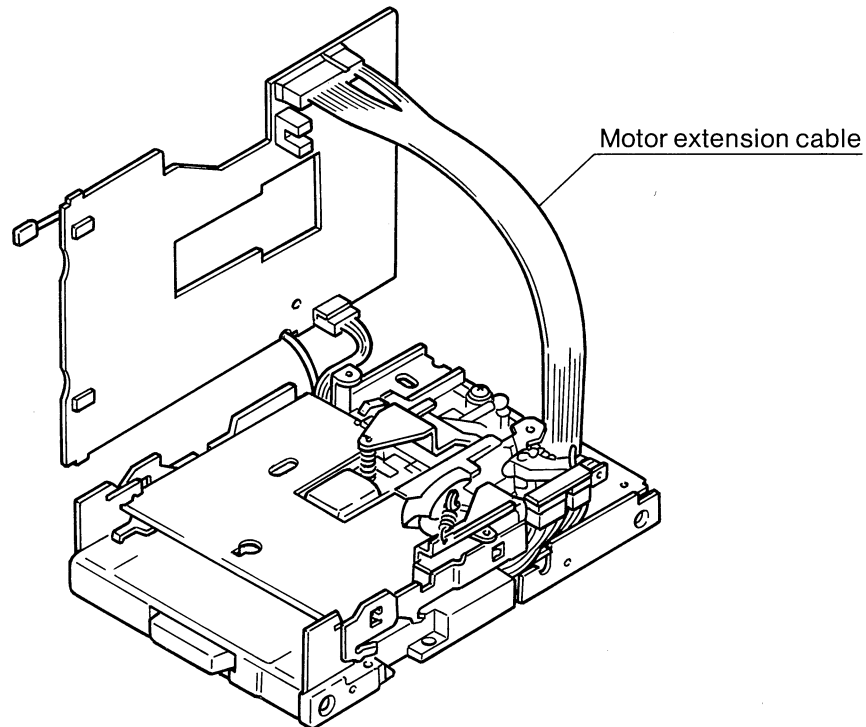

Figure 4-5. Adjusting Motor Extension Cable Installation Diagram
- (2) Attach the motor extension cable and turn the power on (see Figure 4-5).
- (3) Check the sensor current draw: Install an ammeter between TPB-2 and GND, and check that the current flow is at least 100 microamperes and that the dark current is no more than 2 microamperes.
- (4) Measure the AMP output (test pin TPA-1) with an oscilloscope (use the CE disk, see section 4.5.9, Track calibration).
- (5) Set the DIRECTION SELECT to either HIGH or LOW. Enter the STEP signal until a signal for track 40 is output.
- (6) After detecting a signal from track 40, set DIRECTION SELECT to HIGH. Enter the STEP signal 40 times to move the head carriage to track 00.
- (7) Measure the test pin (TPB-3) on the PCB assembly with an oscilloscope.
- (8) By means of the DIRECTION SELECT and STEP signal, calibrate the track 00 sensor assembly so that the test pin (TPB-3) output at the position (range A) indicated in the figure below is LOW.
- (9) Tighten screw ⑤⑤ after the calibration is completed.